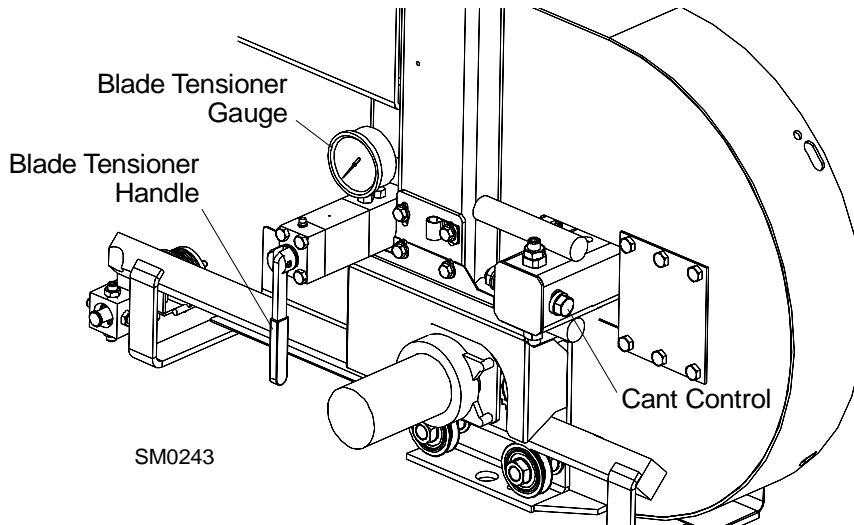

FIG. 3-5
See Figure 3-5. The figure below shows setup of the sawmill, the control box and the cable guide columns.
See Figure 3-5. Tension the blade by turning the hydraulic tensioning handle clockwise until the tension gauge indicates the recommended tension.
4. To adjust where the blade travels on the blade wheels, use the cant control shown in Figure 3-5.